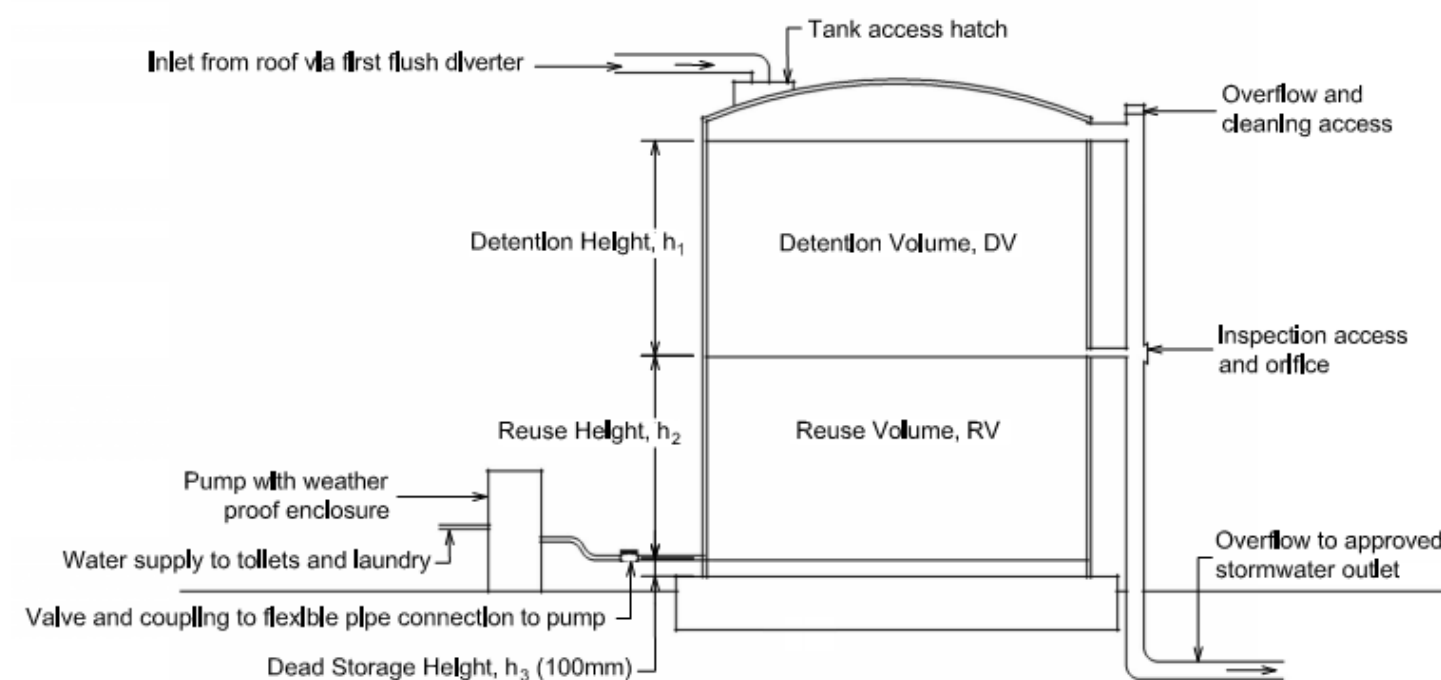

Figure 5: Schematic of Rainwater Reuse and Detention tank configuration
As shown on Figure 5 the Minimum Total Tank Volume (V_t) is the sum of the Detention Volume (DV) determined in Step 3 and the Reuse Volume (RV) determined in Step 4.
Using the chosen tank dimensions – Total Height (H) and Tank Plan Area (PA), and the required tank volumes – Detention Volume (DV), Reuse Volume (RV) from Steps 3 and 4, determine the required configuration for the Rainwater Reuse and Detention Tank. Refer to Figure 5 for an illustration of the tank configuration.